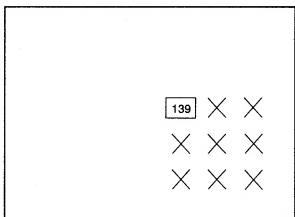

fig. 13
- Adjust value on the picture to 139 (fig. 13).